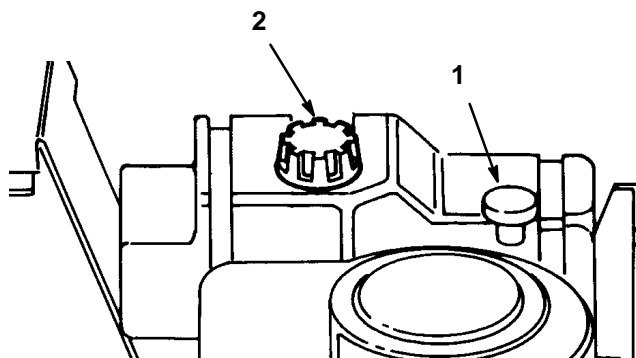

Figure 6
2. Unscrew and remove the dipstick from the oil fill tube (Fig. 6).